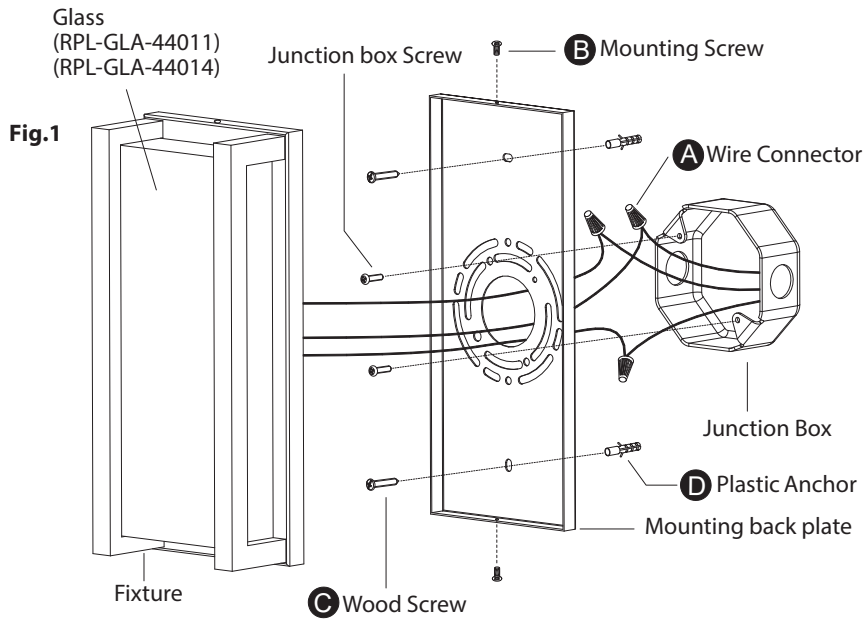

Fig.3
7. Secure the fixture to the mounting back plate using the mounting screw (B).
8. To prevent moisture from entering the outlet box and causing a short, use clear caulking (i.e. indoor/outdoor silicone sealant) to outline the outside of fixture back plate (Fig.3)